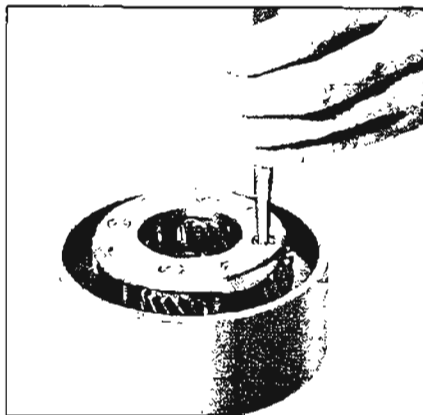

Figure 5-664
2. Using a tapered punch, drive or press the pinions out of the carrier. See Figure 5-664.